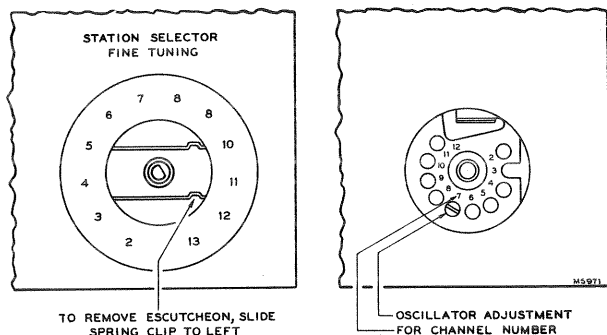

Figure 4—R-F Oscillator Adjustments
**CHECK OF R-F OSCILLATOR ADJUSTMENTS.**—Tune in all available stations to see if the receiver r-f oscillator is adjusted to the proper frequency on all channels. If adjustments are required, these should be made by the method outlined in the alignment procedure on page 7. The adjustments for channels 2 through 12 are available from the front of the cabinet by removing the station selector escutcheon as shown in Figure 4. Adjustment for channel 13 is on top of the chassis.